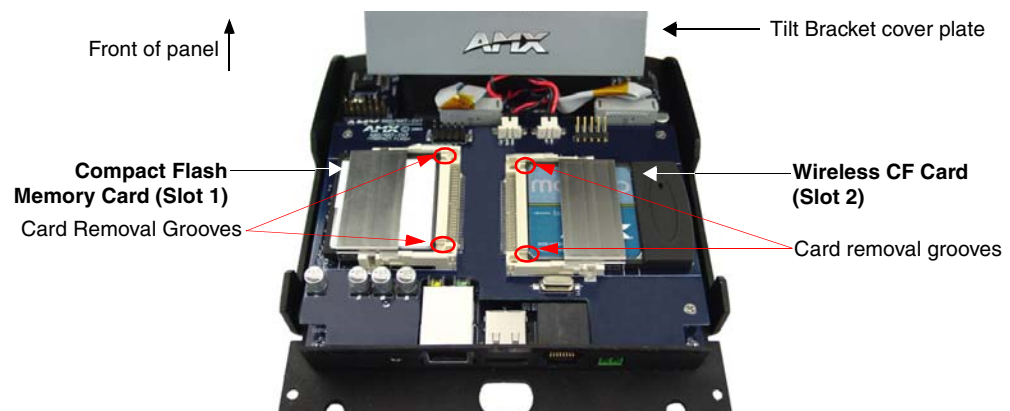

FIG. 19 Location and orientation of the card slots (both CV7 panels)
5. Gently tilt the LCD panel backwards to expose the Tilt Bracket/Speaker assembly (FIG. 19).
1. Discharge any static electricity from your body by touching a grounded metal object and then locate the existing 64 MB Compact Flash card on the main board (FIG. 19).